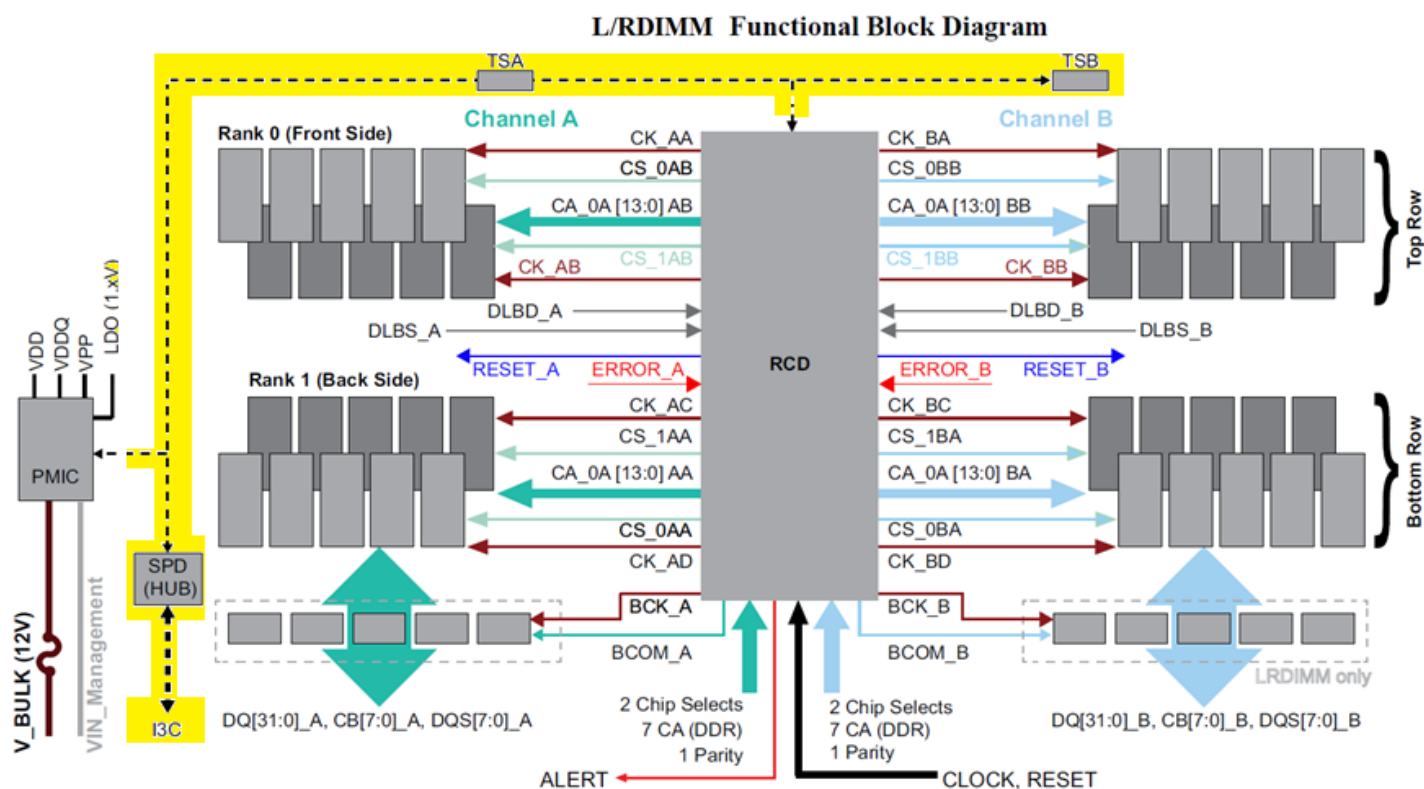
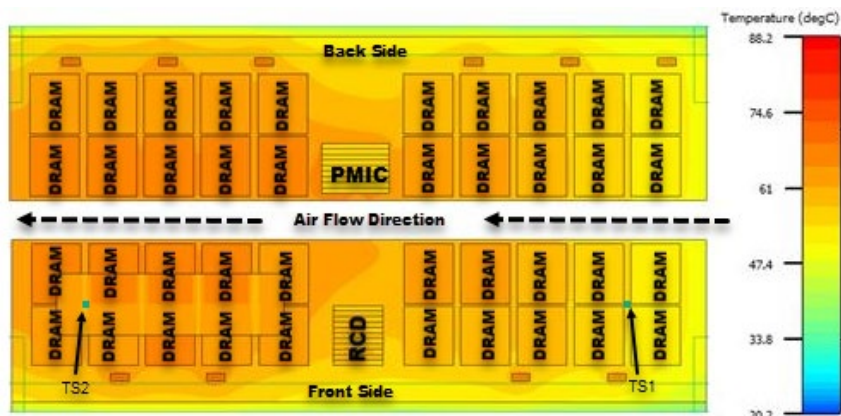

Figure 2: Functional Block Diagram of RDIMM and LRDIMM Memory
Figure 3: Thermal Gradient Across DIMM
DDR5-based registered DIMMs (RDIMMs) and load-reduced DIMMs (LRDIMMs), often written together as L/RDIMMs (Figure 2), have added two integrated circuit (IC) temperature sensors, called TS1/TS2. The purpose of this feature is to give additional capability to monitor thermal changes across the length of each DIMM. Each temperature sensor is placed strategically near each end of the DIMM, embedded between the memory components (Figure 3). These new temperature sensors can be monitored via the I2C/I3C bus at a regular cadence based on host requirements. Accessing these temperature sensors via the sideband I2C/I3C bus can reduce traffic needed on the system in-band channel to monitor temperature update flags from each DRAM until a temperature threshold is approaching. Systems can also manipulate the TS1/TS2 sensors for fan speed changes to ensure data access does not need to be throttled.